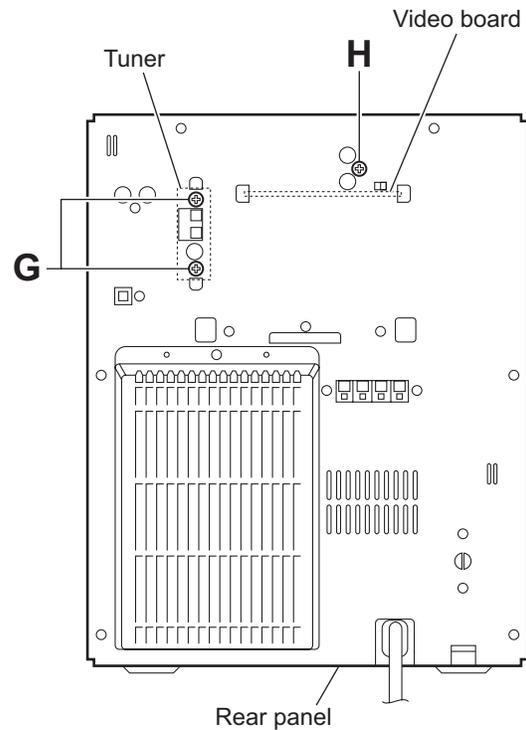

Fig.9
- From the back side of the main body, remove the two screws **G** attaching the tuner to the rear panel. (See Fig.9.)
- From the back side of the main body, remove the screw **H** attaching the video board to the rear panel. (See Fig.9.)